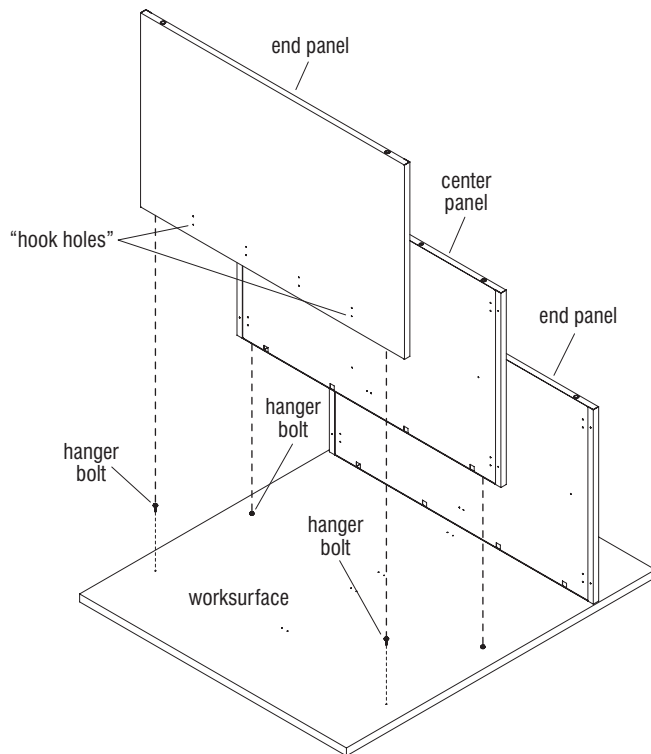

Figure 1
1. Carefully set the packaged worksurface down with the exposed face up. Unfold the cardboard packaging, leaving the worksurface on the protective packaging to prevent damage. Locate six hanger bolts from the hardware pack and screw them into the underside of the worksurface at pre-drilled hole locations as illustrated. Tighten the bolts snug, but not too tight. Correct gap space under the head is required to accept the key-hole slots of end and center panels (Figure 1 & Detail A).
2. One at a time, orient each end panel as illustrated over the installed hanger bolts on the worksurface. Position the panel with the "hook holes" on the panel's side facing outward as illustrated. Set the panel onto the hanger bolts such that the bolt heads insert through the larger opening in the key-hole slots, then slide the panel (pressing near the worksurface) so the slot captures the bolt head. If sliding the panel is too difficult, the hanger bolt(s) may need to be loosened slightly and/or a soft rubber mallet may be used to gently tap the panel end (tap near the worksurface). Tap gently and take care to not damage the end panel (Figure 1).
3. Next, position the center panel onto the hanger bolts between the two end panels and install the center panel in the same manner as for end panels in step 2 above (Figure 1).